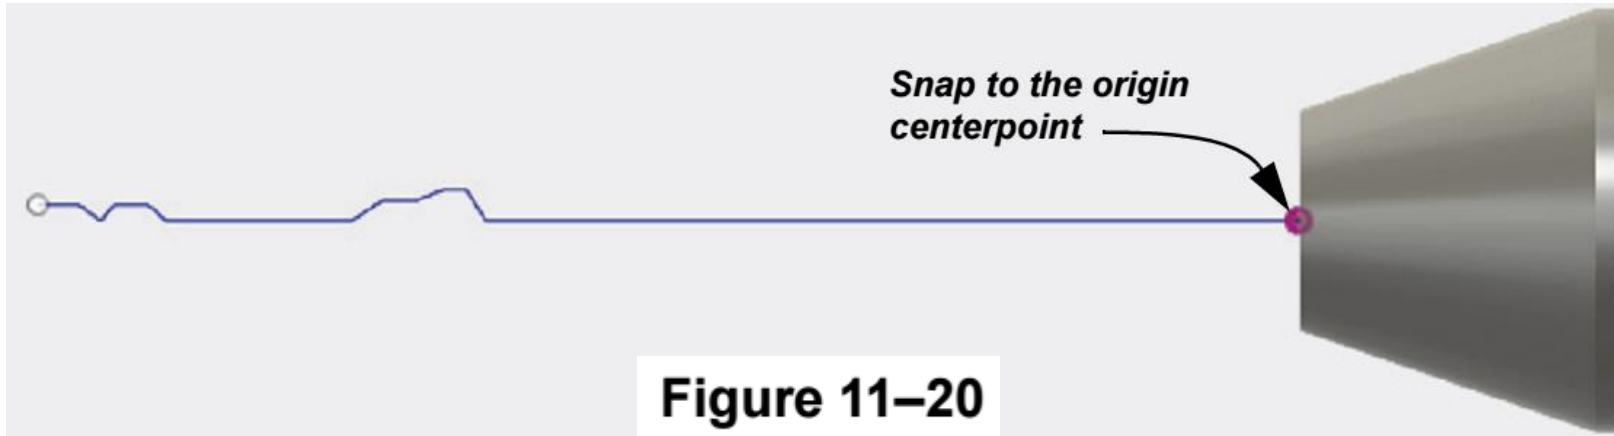

Figure 11–20
2. Sketch the sweep's rectangular profile on the bottom face of the revolved feature, similar to that shown in Figure 11–21.